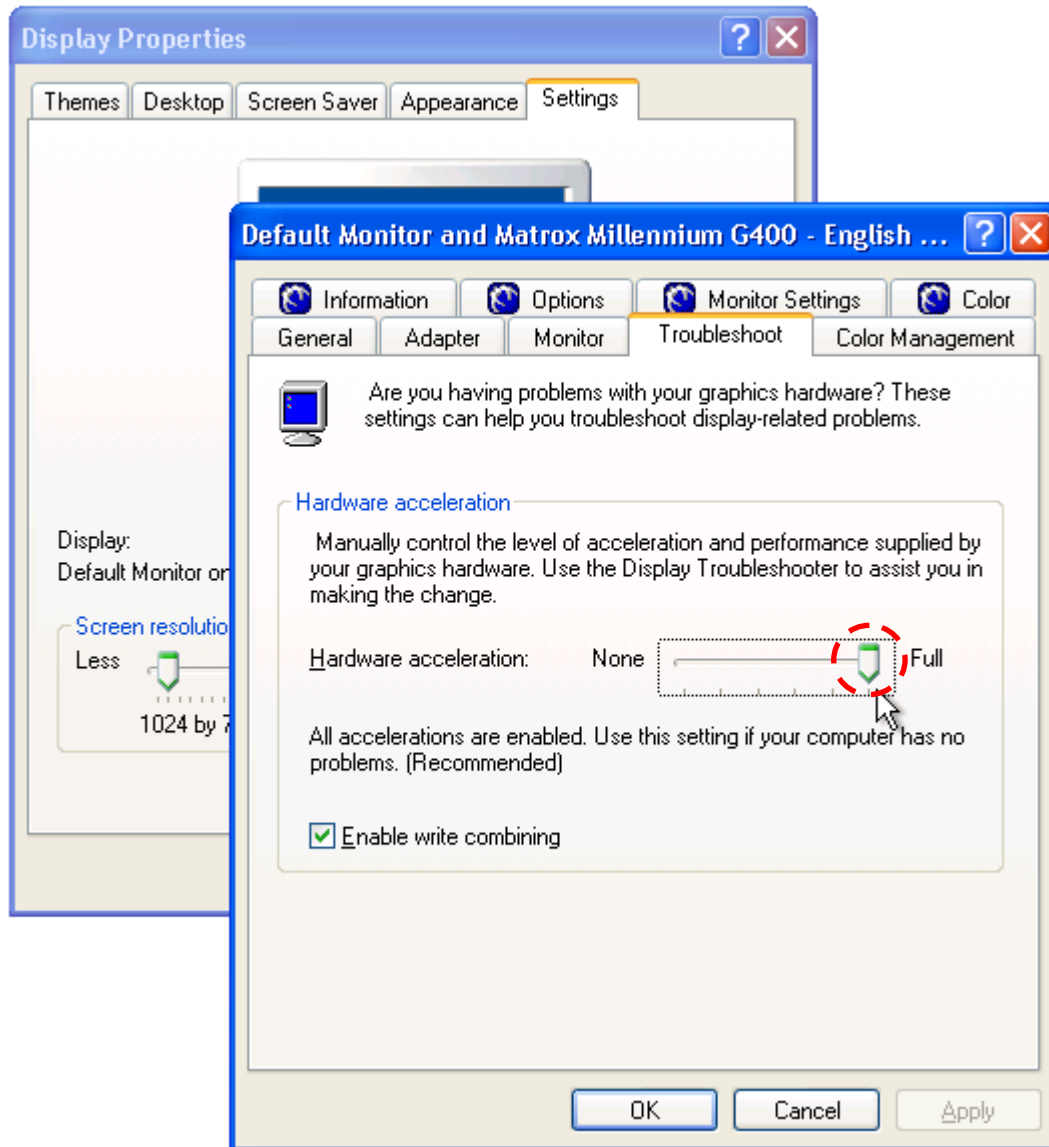

Figure 7-12: Enable Full Hardware Acceleration on WindowsXP guest
4. Move the **Hardware Acceleration** slider across to **full** (see Figure 7-12).